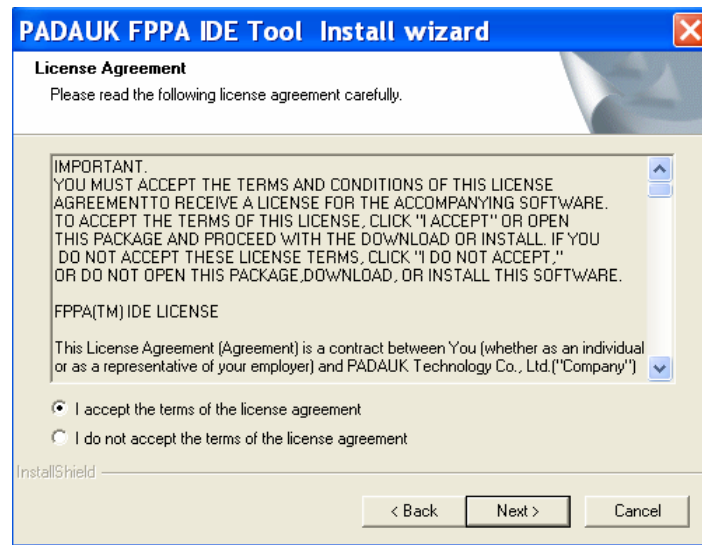

Fig.3-3 : License Agreement
Step 3 : Click **【Next】**, the window of License Agreement is shown as Fig.3-3 .